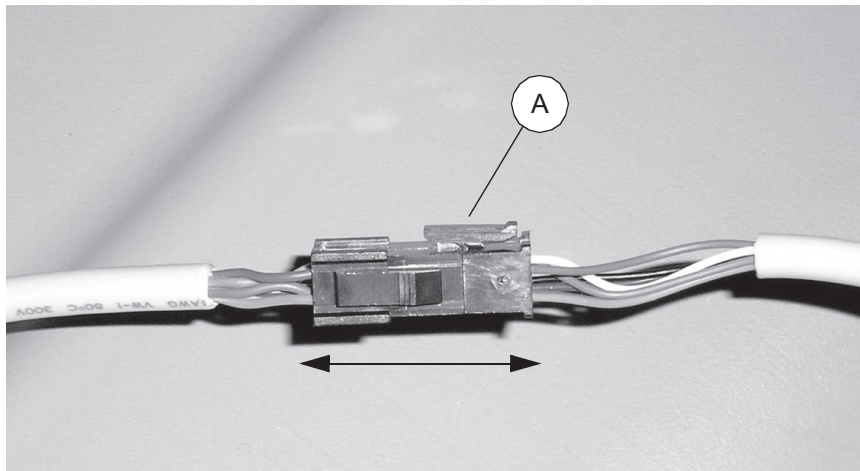

Figure 14: Split side rail cable connector
- 13.1.3 The ACP and extension cables are joined by latching connectors, see Figure 14. Press down the tab A on one side of the connector and pull the two cables apart.
- 14.1.4 The patient control unit is connected to the extension cable by a latching connector, see Figure 14. Press down the tab A on one side of the connector and pull the two cables apart.